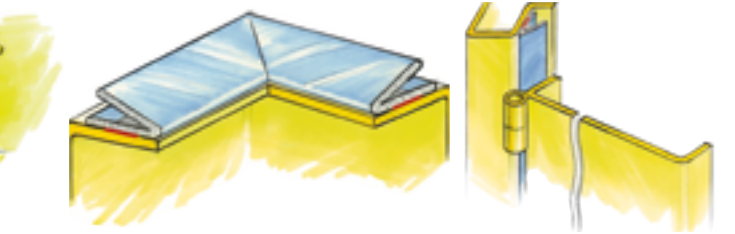

Figure 44: Solutions for larger constructions like server racks
- 44 Full size rack with door:** Ultra-soft twin shield with separate water seal or knitted mesh over silicone tube with water seal, V-shape with additional water sealing, thickness 6-10mm are suitable. Other products like finger strips, textile-covered parts, clip-on gaskets or custom build hybrid gaskets are suitable. (Fig. 44)